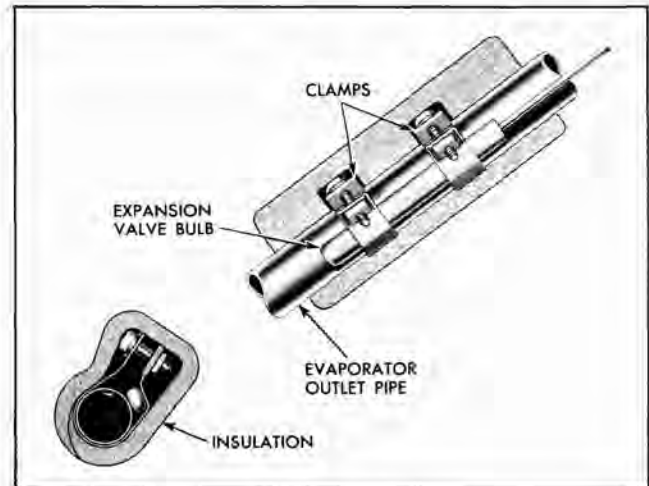

Fig. 5-99 Thermostatic Expansion Valve Bulb at Evaporator Outlet Pipe
7. Disconnect thermostatic expansion valve capillary tube bulb at evaporator outlet pipe (Fig. 5-99).